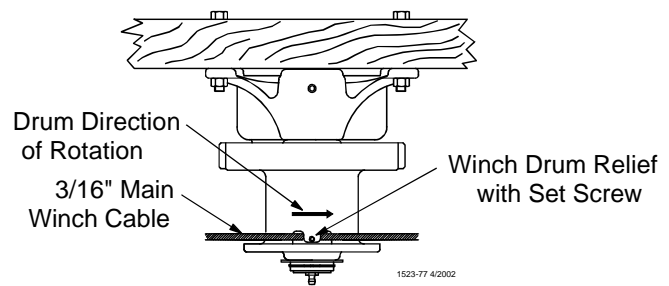

Figure 10.Attaching the cable to the Power Winch
2. Route the cable through the Winch Drum Relief located near the bottom of the drum. Tighten the set screw to anchor the cable to the drum. See **Figure 10**.